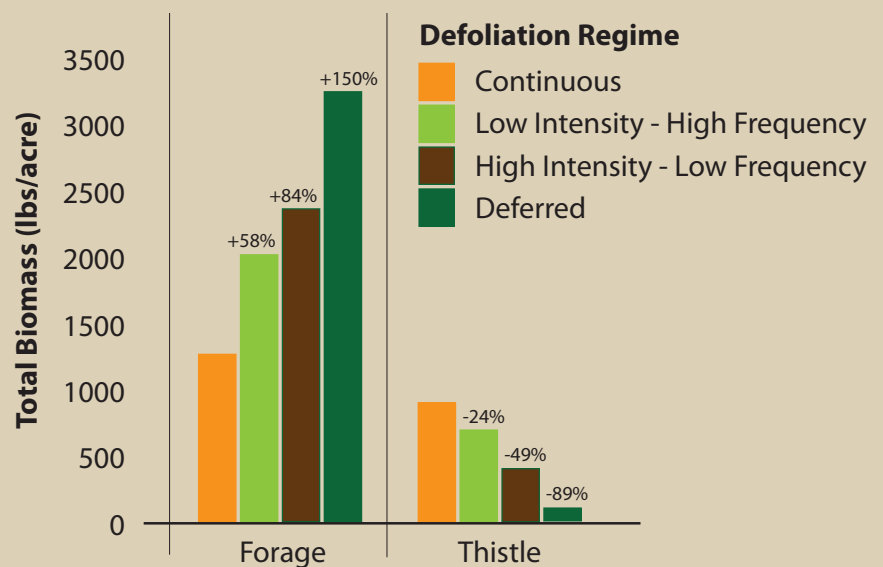

Figure 5: Changes in forage yield and CT biomass under different defoliation regimes compared to continuous defoliation in central Alberta.
1. Maximum season-long accumulated forage yields in the Parkland of Alberta occur with HILF (high intensity - low frequency) defoliation, typified by a short period of intense defoliation and a prolonged recovery period of ~6 weeks. Continuous defoliation resulted in the lowest pasture forage yields (See Fig. 5).
2. Trends in CT weed abundance were opposite to those of forage yields, being greatest in the continuous treatment, and lowest with HILF or deferred defoliation, highlighting the importance of controlled defoliation for increasing forage growth and suppressing weeds like CT (See Fig. 5).